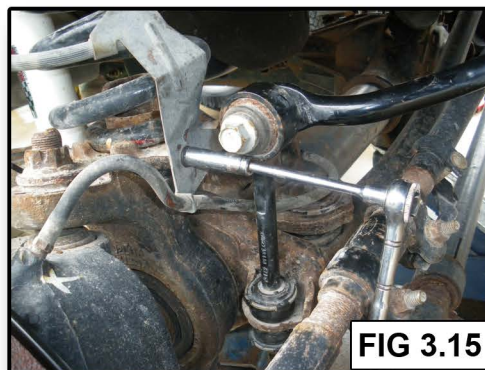

FIG 3.15
15. Reinstall brake hose brackets in original position (FIG 3.15)